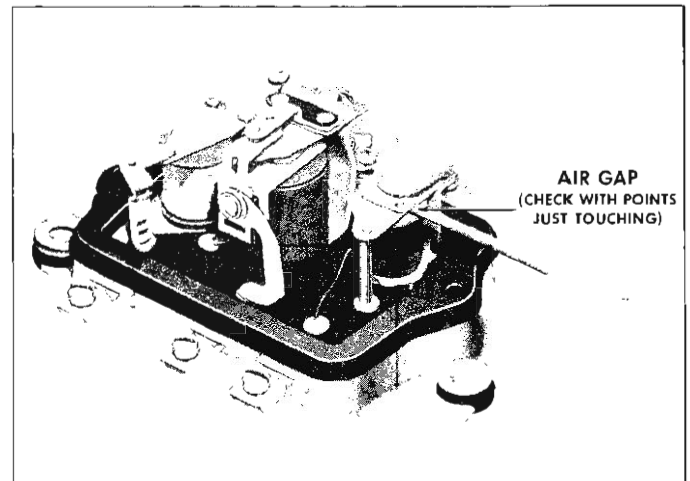

Fig. 32—Checking Field Relay Air Gap
- AIR GAP: Check the air gap with the points just touching (fig. 32). The air gap normally need not be adjusted. If the point opening and closing voltages are within specifications, the relay will operate satisfactorily even though the air gap may not be exactly according to specifications.